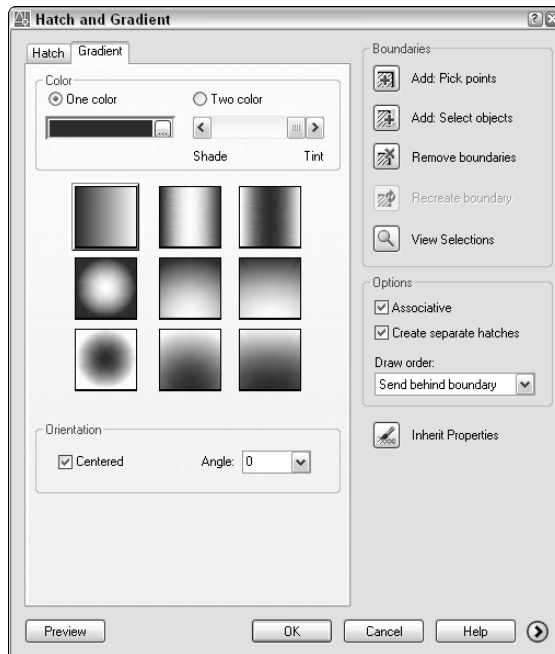

Figure 16-24: Use the Gradient tab of the Hatch and Gradient dialog box to create gradient fills of closed objects.
1. Choose Gradient from the Draw toolbar to open the Hatch and Gradient dialog box with the Gradient tab on top, shown in Figure 16-24.